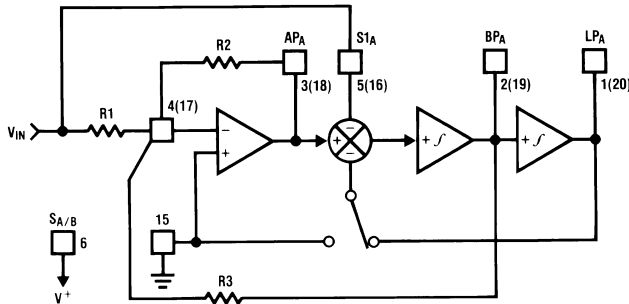

Figure 46. MODE 4
8.4.1.7 MODE 4: Allpass, Bandpass, Lowpass Outputs (See Figure 46)